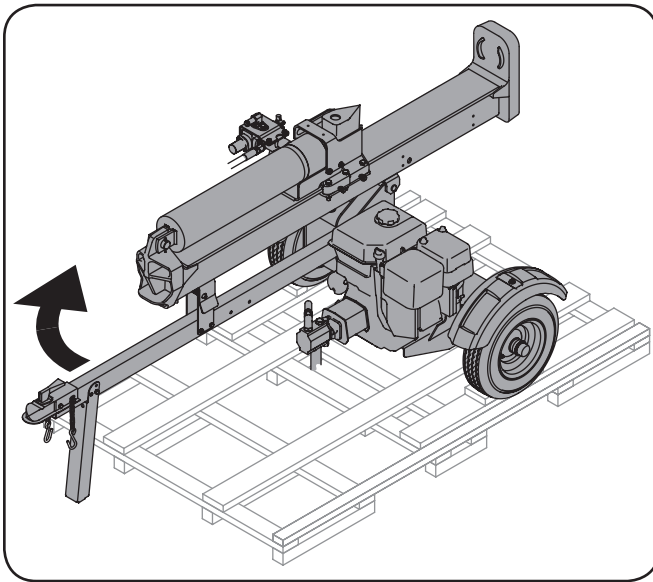

Figure 3-7
- Carefully reposition the log splitter off of the crate by lifting up on the tongue tube, near the hitch coupling, and slowly rotating the machine clockwise. See Figure 3-7.